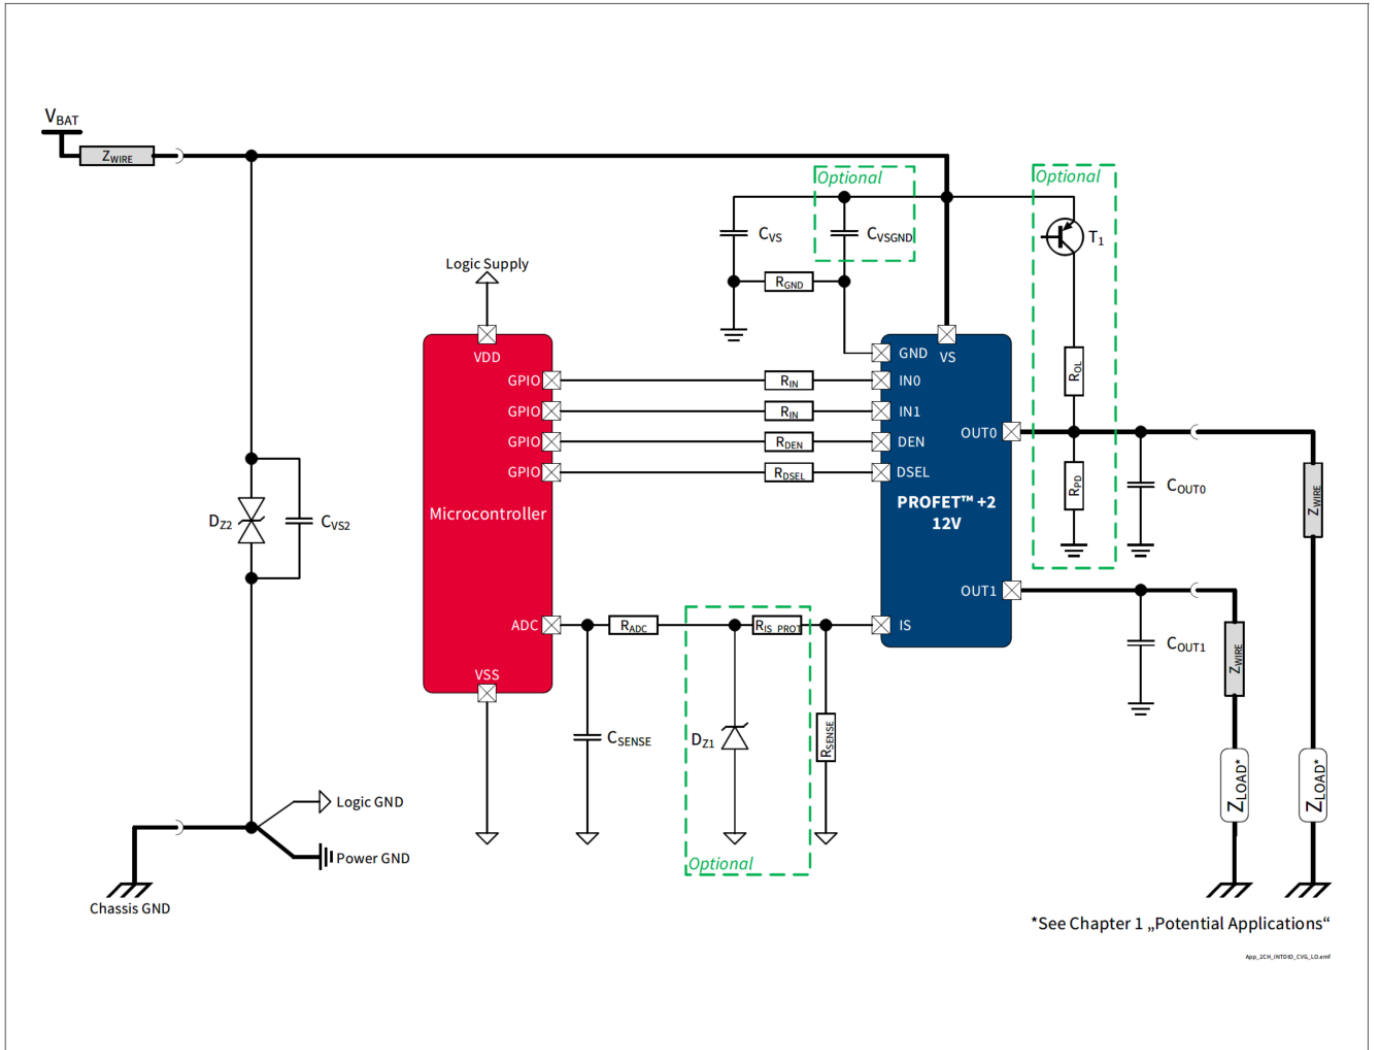

Figure 43 BTS7008-2EPA Application Diagram
1.14, 2019-10-15	Chapter 8.2 updated P_8.7.1.1, P_8.7.1.7, P_8.7.1.8 updated (added in Note or Test Condition: link to Figure 25) P_7.5.1.4, P_7.5.1.5 updated (added in Note or Test Condition: DEN = “low”) P_7.5.1.12 updated (deleted unnecessary space in Symbol: $ dV_{OUT} / dt $ → $ dV_{OUT} / dt $) P_9.7.1.6 updated (Min./Typ./Max.: -50%/5500/+50% → -35.0%/5400/+35.0%) P_9.7.1.9 updated (Min/Typ./Max.: -42%/5500/+42% → -30.0%/ 5400/+30.0%) P_9.7.1.12 updated (Min./Typ./Max.: -40%/5500/+40% → -29.5%/5400/+29.5%) P_9.7.1.15 updated (Min./Typ./Max.: -25%/5500/+25% → -13.5%/5400/+13.5%) P_9.7.1.18 updated (Min./Typ./Max.: -8%/5500/+8% → -5.8%/5400/+5.8%) P_9.7.1.20 updated (Min./Typ./Max.: -6%/5500/+6% → -4.0%/ 5450/+4.0%) P_9.7.1.22 updated (Min./Typ./Max.: -5%/5500/+5% → -3.9%/5450/+3.9%) Figure 1, Figure 43 updated Chapter 1 updated (or LED equivalent → or equivalent electronic loads (e.g. LED modules)) P_4.3.0.7 added Table 24 updated Chapter 5.1 updated (added: see Chapter 10 for the complete application setup overview)